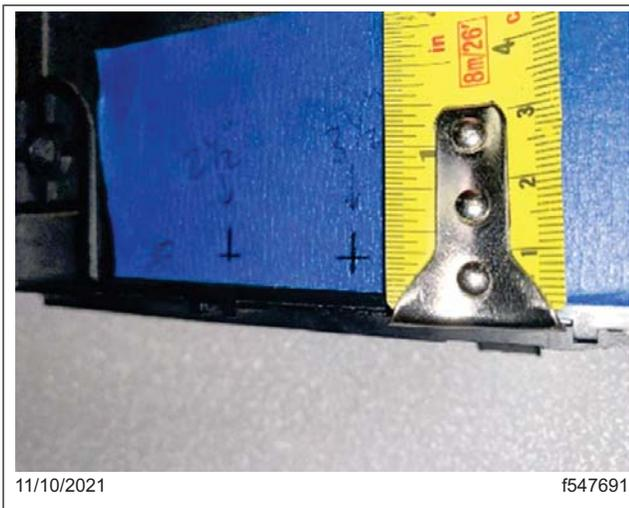
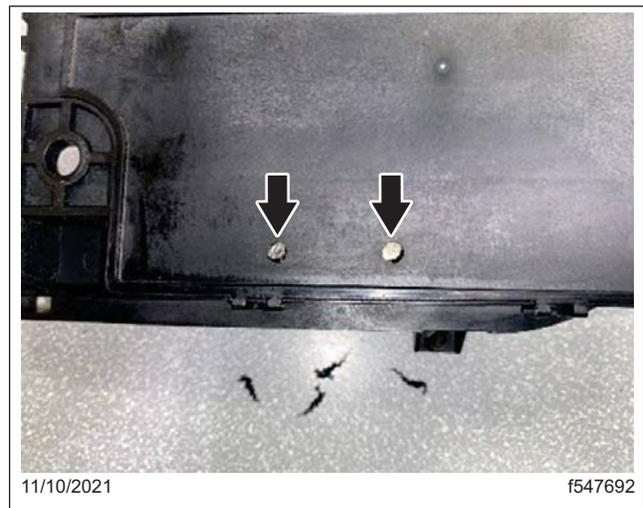

Fig. 41, Marking 2-½ inches and 3-½ inches from the Lower Corner
Fig. 42, Drilled Holes
- Layout and drill two holes in the plastic BCA back cover as follows: Starting at the left lower corner of the back cover, mark locations at 2-½ inches and 3-½ inches. Place an intersecting mark at 3/8 inch from the outer edge. These two intersecting marks should line up with the two main power exterior studs. Using a 3/16 inch drill bit, drill the outer plastic cover at the two intersecting marks. The plastic cover is approximately 1/16 inches thick and is easily drilled. Do not drill into the metal studs that are approximately 3/8 inch below the plastic cover. See Fig. 41 and Fig. 42.